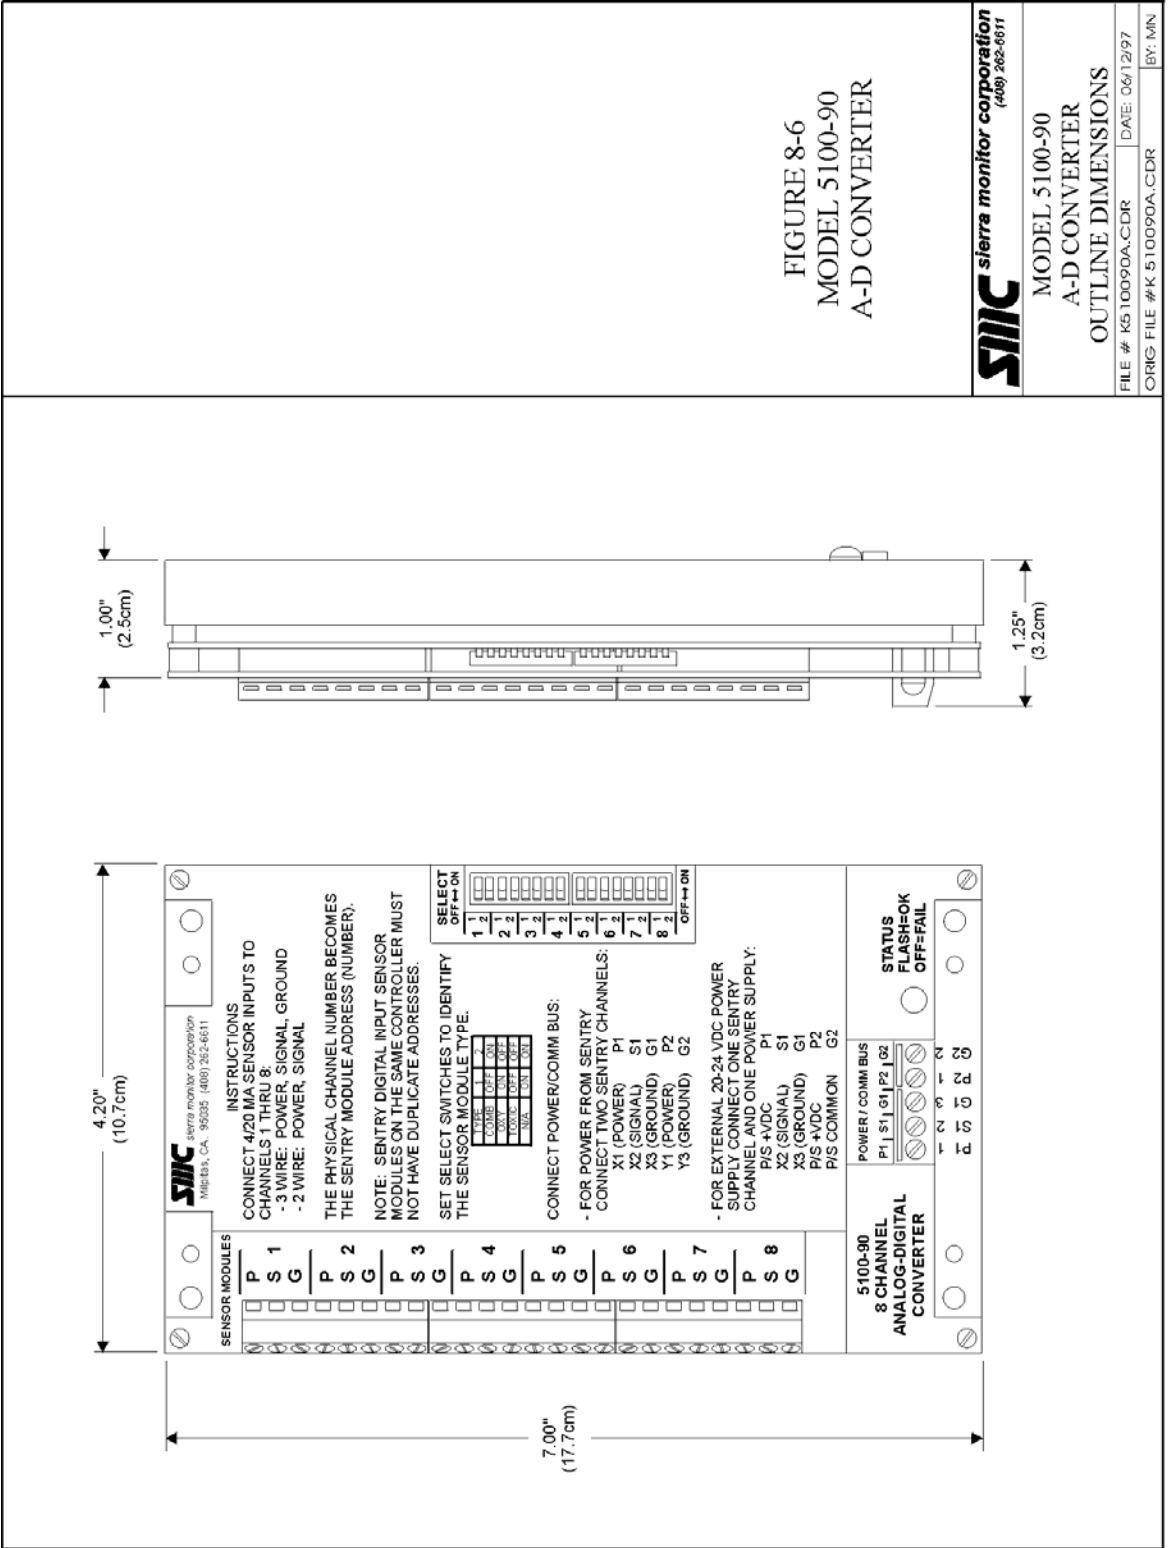

Figure 8-6
2. Figure 8-6 shows the terminal connections for the 8-Channel Analog-Digital Converter.